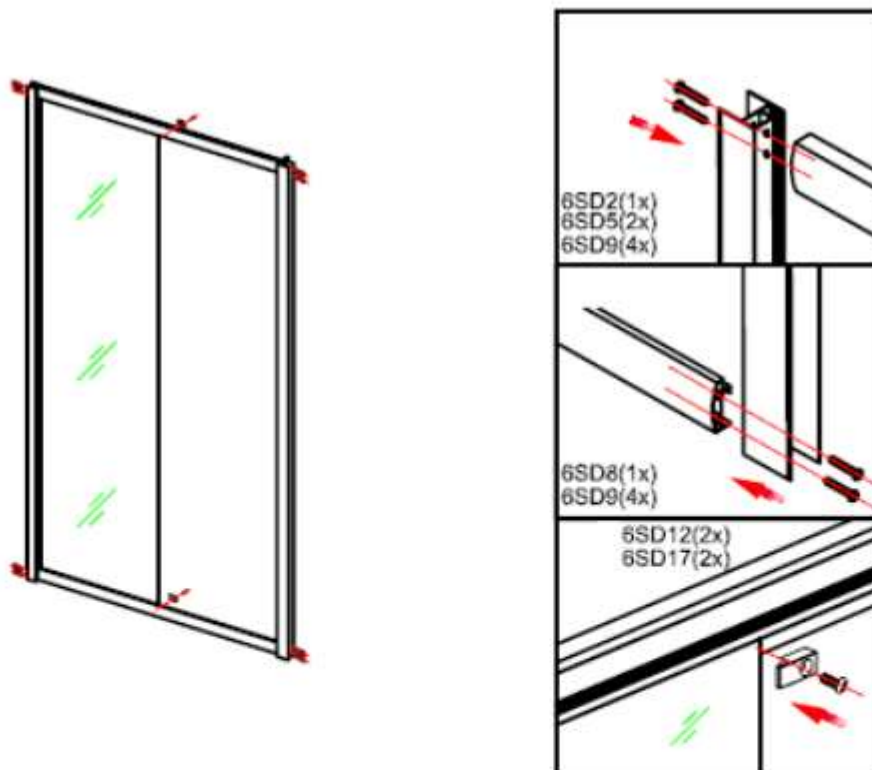

Figure 4
4. Put the fixed panel between the rail profiles(6SD5),fasten the rail profile with the fixed profile(6SD2) by using screw(6SD9). Install the stopper up and down rail,as showed in figure 4.